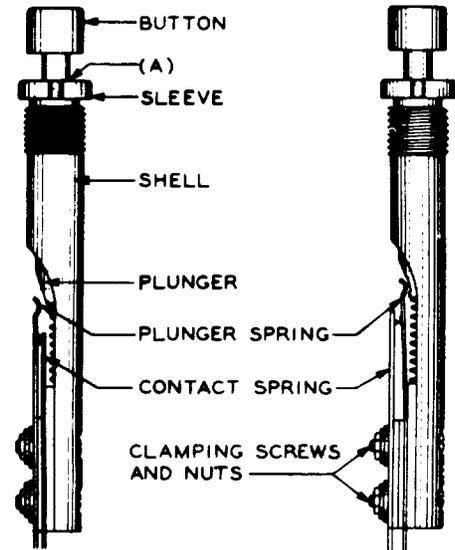

Fig. 1
2.02 Plunger Movement: Fig. 1 (A) - The plunger shall operate freely and shall not be sluggish in restoring to the normal position.
(1) If the plunger binds, place a few drops of KS-7860 petroleum spirits between the plunger rod and the sleeve (Fig. 1 (A)). Work the plunger up and down. Repeat this operation if necessary.
(2) If this operation does not remove the bind, examine the plunger and the plunger spring to determine whether a gummy substance has formed over their surfaces. If necessary clean the plunger spring with a toothpick which has been dipped in KS-7860 petroleum spirits and wipe off the plunger with a clean dry KS-2423 cloth.
(3) If binding still occurs, unsolder the wires from the key terminals and remove the key from the keyshelf using the No. 82 or No. 82B wrench to turn the key-sleeve in a counterclockwise direction. Then unscrew the shell from the sleeve and remove the plunger and the coil spring.
(4) Clean each part thoroughly with a KS-2423 cloth which has been moistened with KS-7860 petroleum spirits. After the parts have been cleaned allow them to dry thoroughly before reassembling them in the key.
(5) Before assembling the key, inspect the parts for defects and replace all defective parts. It is advisable to reassemble the key out of the keyshelf and check for plunger movement before placing the key in the keyshelf.
(6) After the desired adjustment for plunger operation has been obtained, restore the key to its position in the keyshelf and resolder the wires.